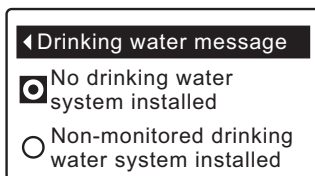

FIG. 60
4. Press the SELECT (○) button to display the Drinking water message menu (See Figure 60).